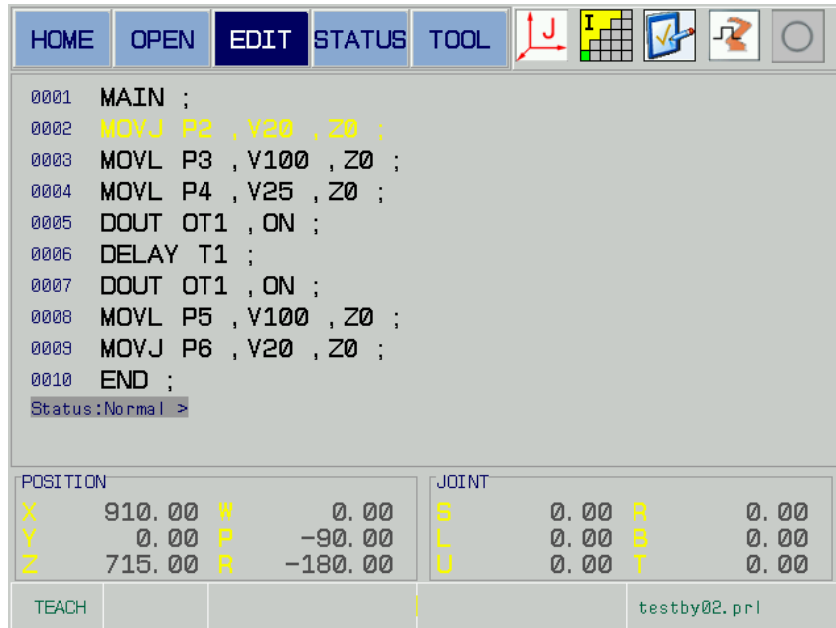

Fig. 5-37
4. If select [YES], the press the [SELECT], and then delete the current line; if select [NO], then cancel the DELET operation; refer to the Fig. 5-37.